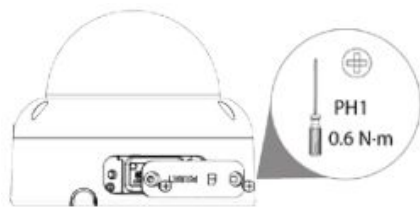

Figure 2-7
Step 1 Remove the side panel using the included wrench. See Figure 2-7. Skip to step 3 if only installing SD card.